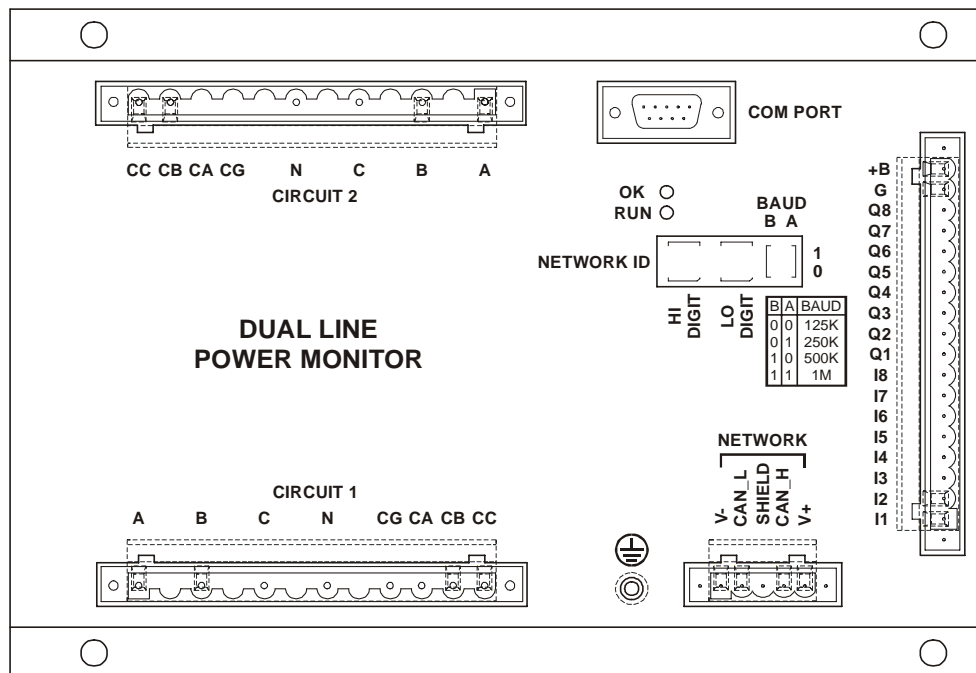

Figure 1.1 – ACM530 Dual AC Power Monitor
The AC inputs are divided into two circuits (Refer to Figure 1.1 for circuit connector location). Each circuit has three voltage signals (A, B, C), which accept input voltages from 0 – 600VAC with respect to neutral (N). These inputs can be directly connected or passed through external potential transformers (PTs). If voltages greater than 600VAC are to be measured, external PTs are required.